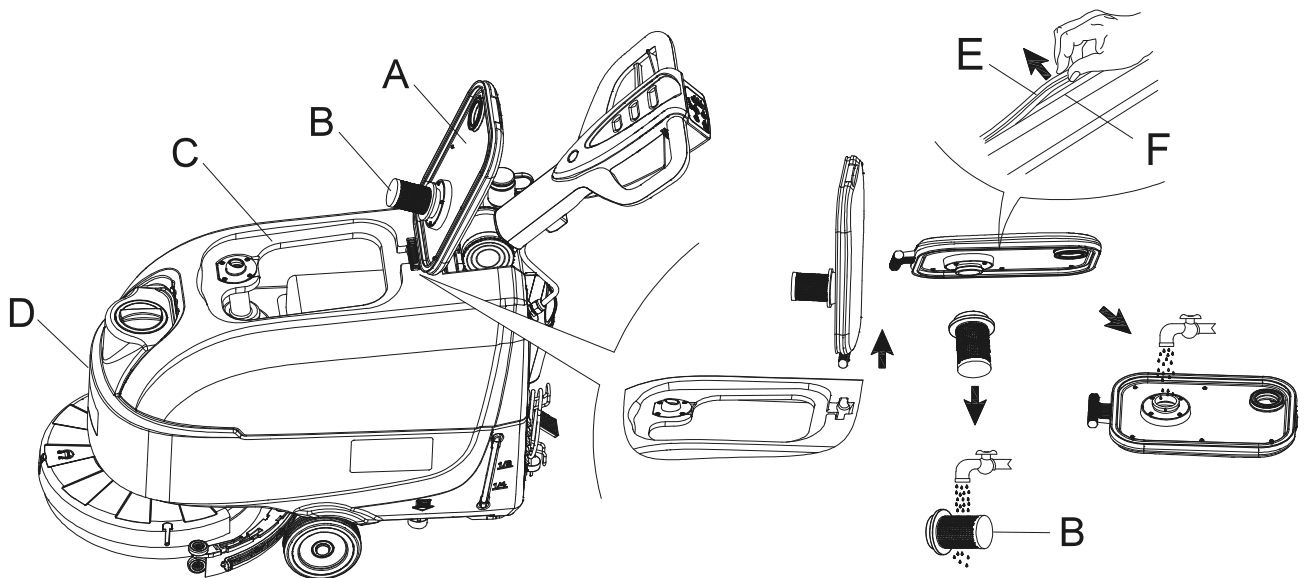

Figure 17
3. Turn the recovery tank lid (A, Figure 17) 90 degrees position where it can be taken off from the recovery tank, and then take out the float ball filter (B) from the recovery tank lid.
5. Install the float ball filter (B) and the recovery tank lid (A).
**The tank sealing strip (E) produces the vacuum inside the tank when the vacuum motor works. The tank must be sealed so it can effectively absorb the water from the ground to recovery tank.**
7. Check whether the contact surface of sealing strip (E) has integrity and sealing is sufficient. If necessary, take the sealing strip of the tank out of the groove (F) and replace it. Assemble the new sealing strip as shown in (Figure 17), the joint should be back in the middle area.
8. Close the recovery tank lid (A).